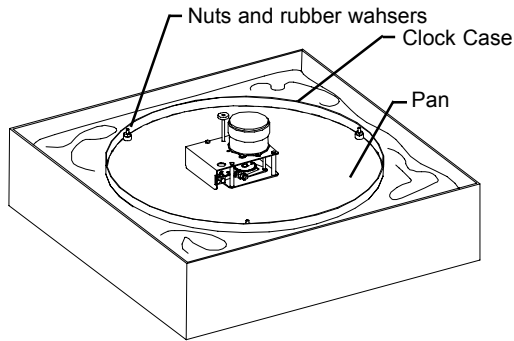

Figure 5
STEP 9: Using 1/4" socket wrench, remove the (3) nuts holding the clock case and glass. Refer to Figure 5 if necessary.